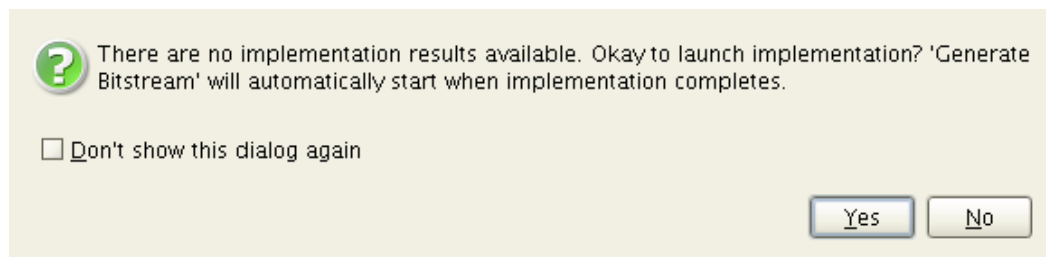

Figure 3-12: Generate Bitstream
- In the Project Manager window, under Program and Debug, click **Generate Bitstream**. Confirm the launching of implementation (Figure 3-12).